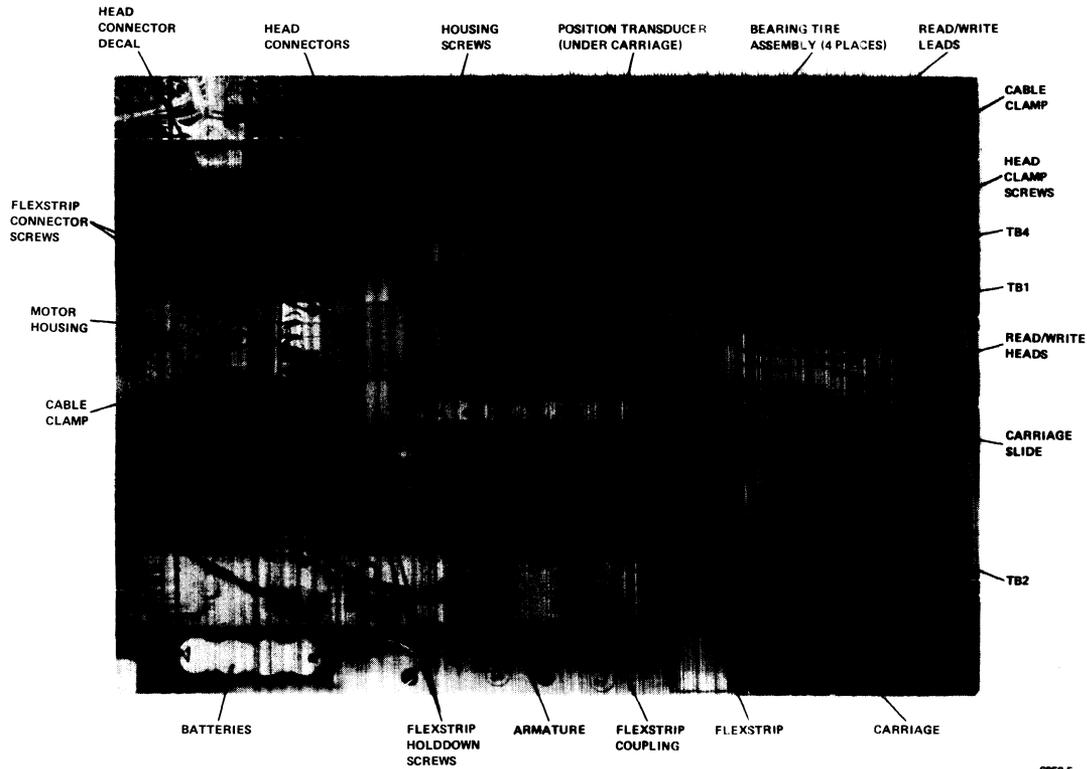

Figure 5-3 Top View of RK05 with Cover Removed
5. Connect the positioner transducer wires to TB1 and TB2 (Figure 5-3).
3. Remove the four flexstrip connector and flexstrip hold-down screws (Figure 5-3). Do not disconnect the flexstrip coupling from the armature.
2. Replace the five screws that secure the carriage slide to the motor housing (Figure 5-3).
5. Disconnect the head connectors (Figure 5-3) from the electronic module.